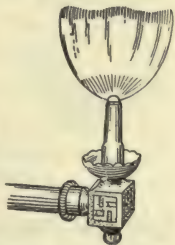
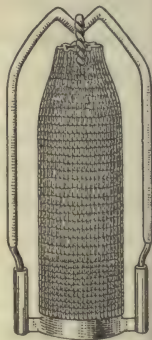

FIG. 141. — Fishtail burner.
FIG. 142. — A gas mantle.
**Gas burners and gas mantles.** — For a long time, the only gas flame used was that from a fishtail burner (Fig. 141). Recently, however, the fishtail burner has been widely replaced by incandescent mantles, such as the Welsbach. The principle of the incandescent mantle is very simple. When certain substances, such as thorium and cerium, are heated, they do not melt or vaporize, but glow with an intensely bright light. Mr. Welsbach made use of this fact to secure a burner in which the illumination depends upon the glowing of an incandescent, solid mantle, rather than upon the blazing of a burning gas. He made a cylindrical mantle of thin fabric (Fig. 142), and then soaked it in a